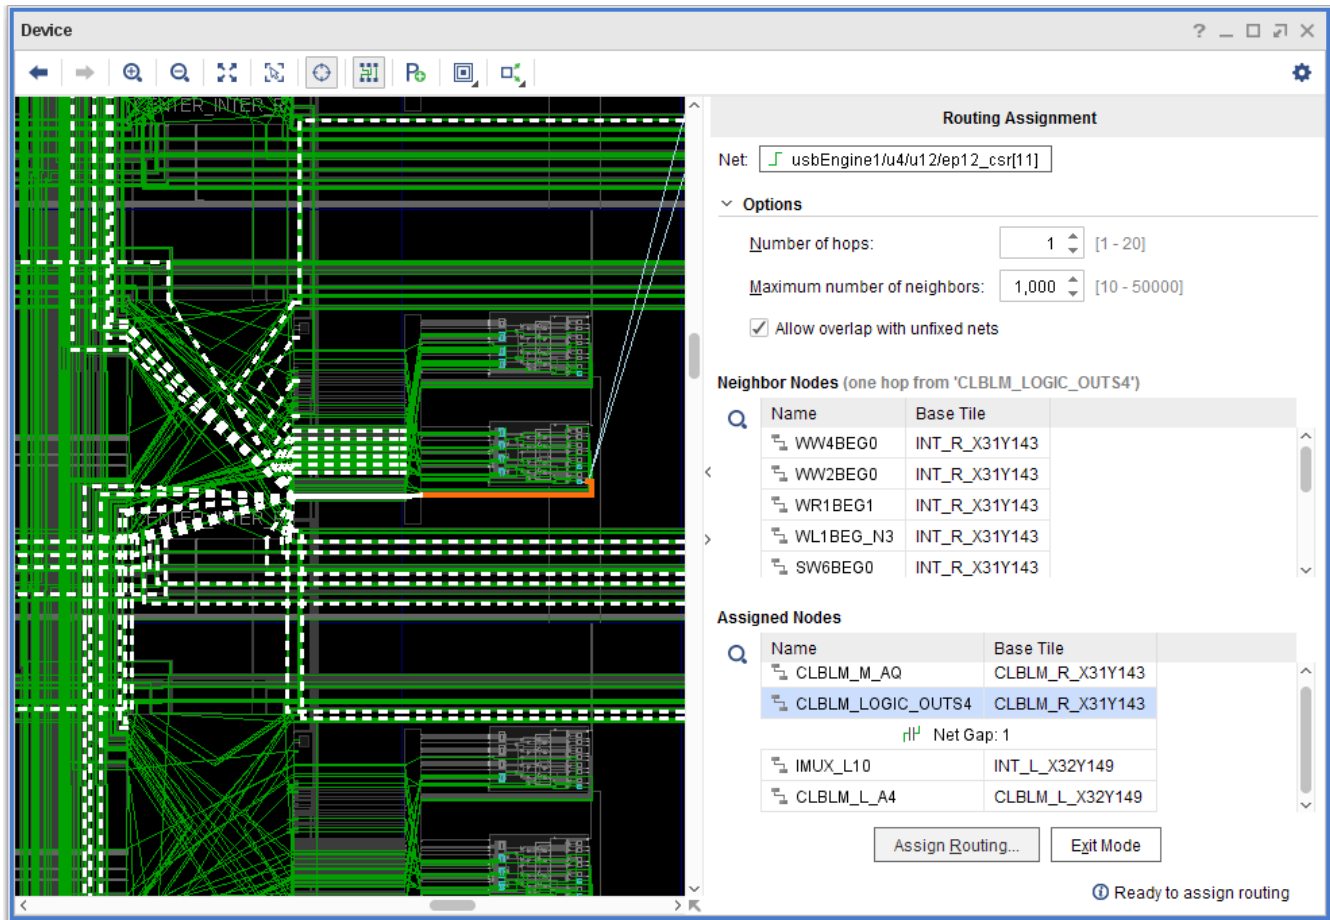

Figure 3-17: Assign Next Routing Segment
- The Neighbor Nodes section (shown in Figure 3-17) displays the allowed neighbor nodes, highlights the current selected nodes (in white), and highlights the allowed neighbor nodes (white dotted) in the Device View.